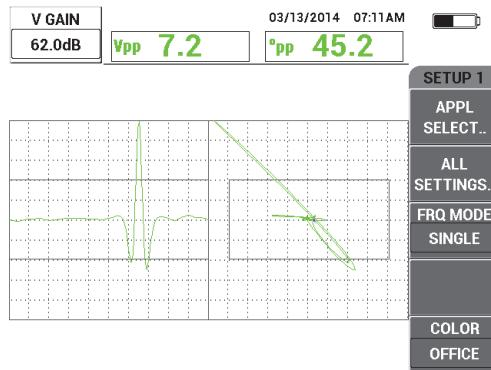

Figure 3-8 Adjusting the vertical gain
5. Press the GAIN key (**dB**) two more times to access the **V GAIN** parameter, and then adjust the vertical gain with the knob until the signal reaches the top of the screen, which is 100 % screen height (see Figure 3-8 on page 36).